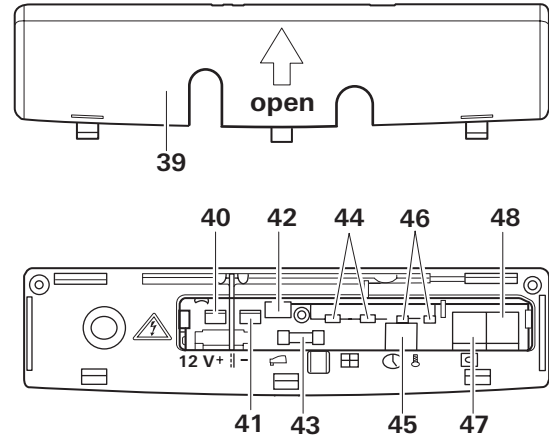

Fig. 35
Electrical connections are underneath the furnace's connection cover (Fig. 35 – 39). While detaching or reattaching the connection cover, take care to neither dislodge nor pinch the connector cables.
- Use fully insulated flat connectors only owing to the risk of short circuit concerning connections (Fig. 35 – 40 and Fig. 35– 41).
- Insert the connector cable into the connection (Fig. 35 – 46). Polarity is not a concern.
- Fully insert the connector cable into one of the connections (Fig. 35 – 47, 35 – 48).